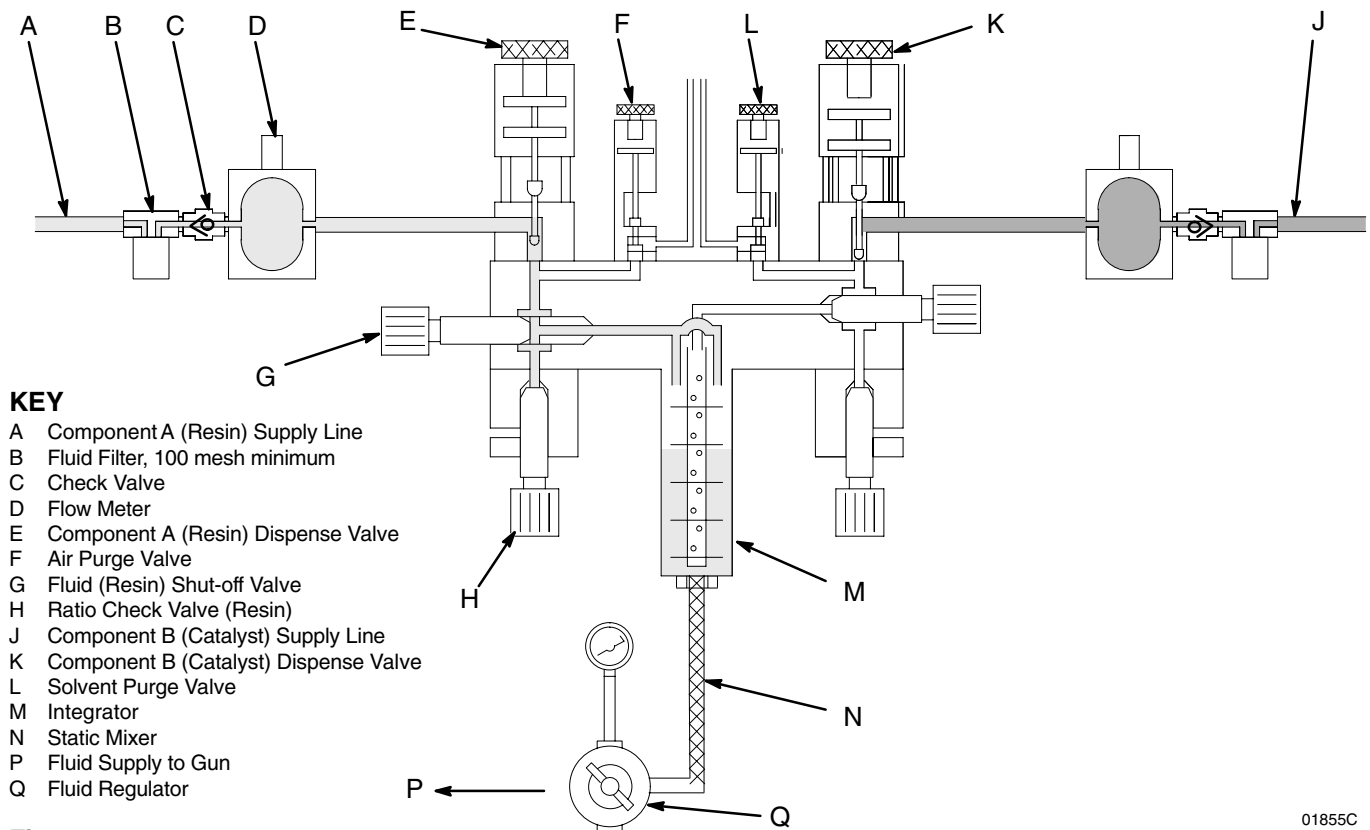

Fig. 2.1
- First, the Component A (resin) dispense valve opens, and the fluid begins to flow into the integrator chamber. When the correct quantity has been dispensed (based on the calculated target value), the component A dispense valve closes. See Fig. 2.1.